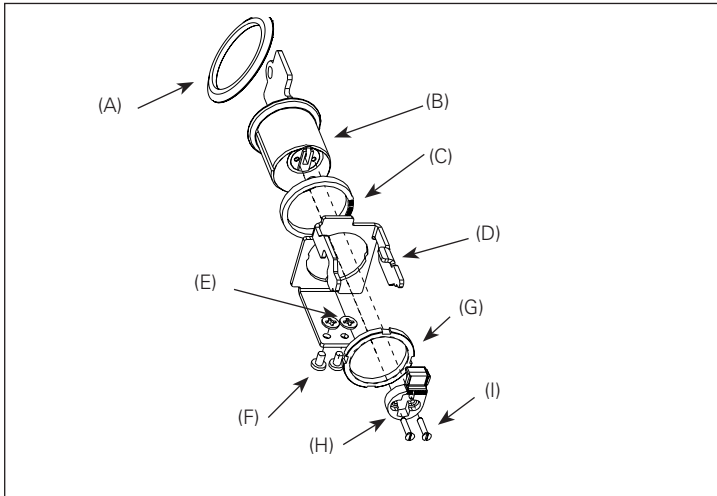

Figure 1. Contents of Kit
Refer to **Figure 1** for visual identification of the parts listed below:
Step 4: Refer to **Figure 1** for orientation purposes. Remove the key from lock (B). Remove the lever arm that came installed on the back end of the lock by removing the two small screws holding it in place. Discard the removed lever arm, two screws and one of the large locking nuts supplied with the lock.
Step 5: Refer to **Figure 1** for assembly orientation. Push the support washer (C) onto the back end of the key lock (B). Mount the key lock (B) to the mounting bracket (D) with the large locking nut (G). Ensure that the large locking nut is firmly tightened. Mount the key lock lever (H) supplied with the kit to the back end of the lock using two machine screws (I) also supplied with the kit.